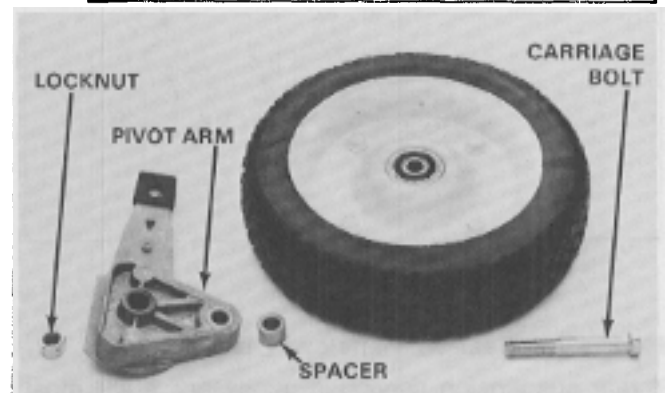

Figure 21
3. Install the spring arm and pivot arm assembly onto the deck using the carriage bolt and nylon locknut. Don't forget the spacer that fits between the deck and the spring arm. Torque the pivot arm bolt. See Figure 21.